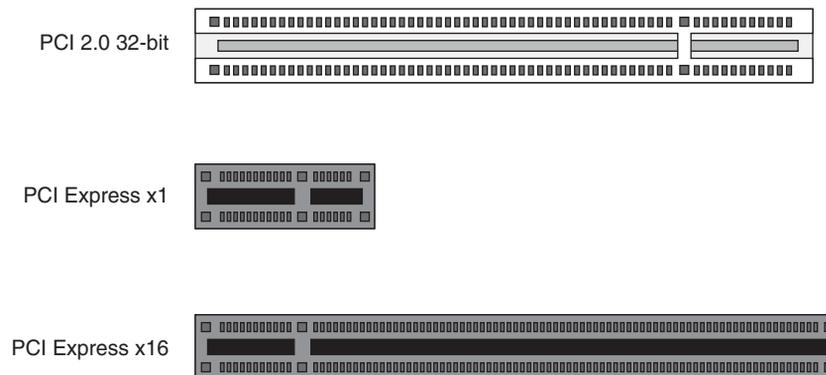

Figure 6-14 Comparison of PCI/PCI-X Connector with PCI Express Connectors
- PCIe hardware connectors are not compatible with PCI/PCI-X (see Figure 6-14)